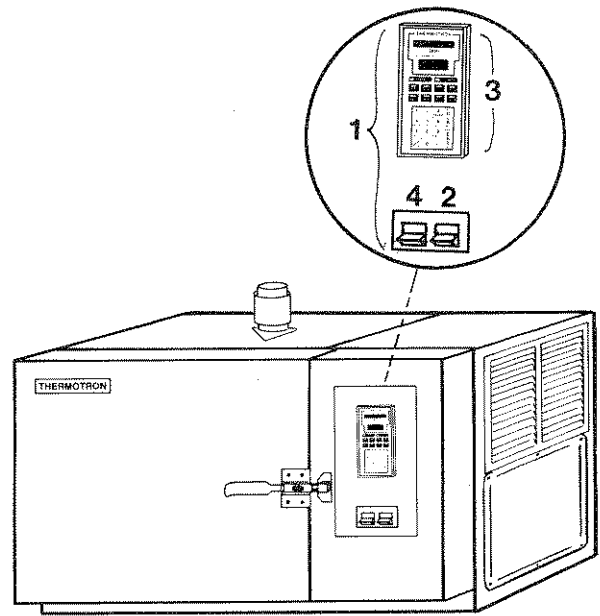

FIGURE B1
The control panel (1) is on the front side of the chamber. The control panel has the power switch (2) and the controls for the 2800 Programmer/Controller (3). It can also be equipped with an optional light switch (4). See Figure B1.